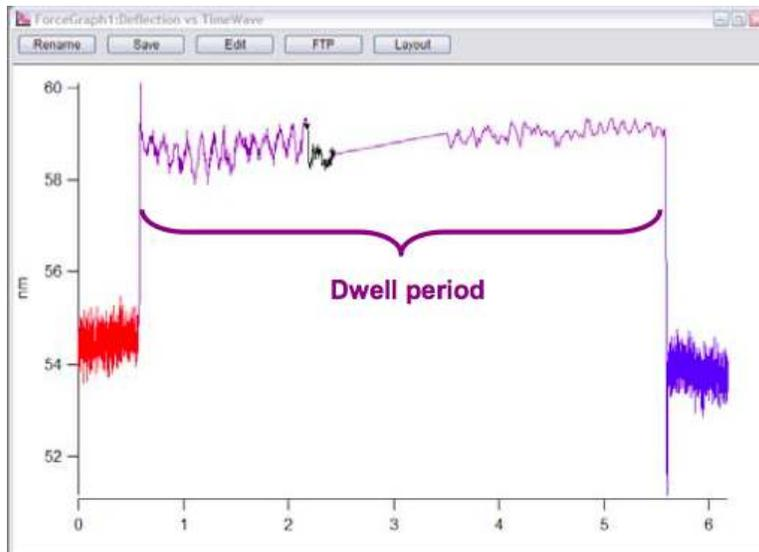

Figure 18.7.: Example of a temporal force distance curve (plotted as cantilever deflection vs. time, with a multi-second dwell towards surface).
⑤ **Dwell Time** Defines the length of dwell. Maximum dwell time is 10 seconds. An example of a force distance curve (plotted as deflection vs. time) with a multi second dwell setting is seen in Figure 18.7 on page 238.
- **Always** The Force plot is updated as it is being collected; this is evident by a black line that appears within the data stream in the force curve. (See Figure 18.7 on page 238 for an example of this.)